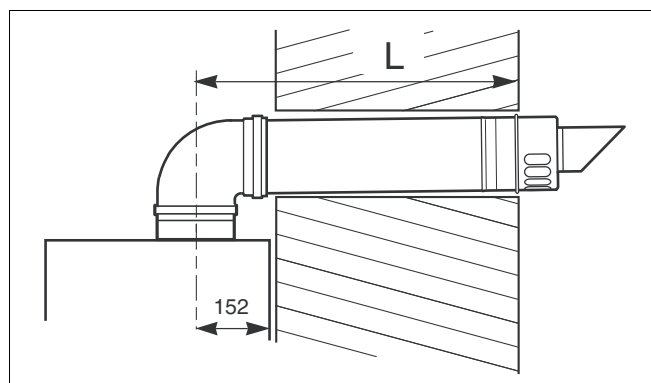

fig. 16 Flue length - rear
- Measure the flue length L. Refer to figure 16.